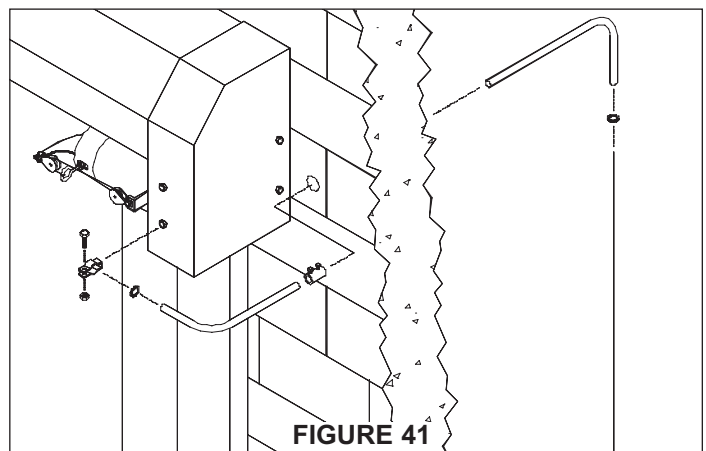

FIGURE 41
2. Insert the two rope guide plugs into the shorter end of the two 'L' shaped conduit pieces, **Figure 41**.